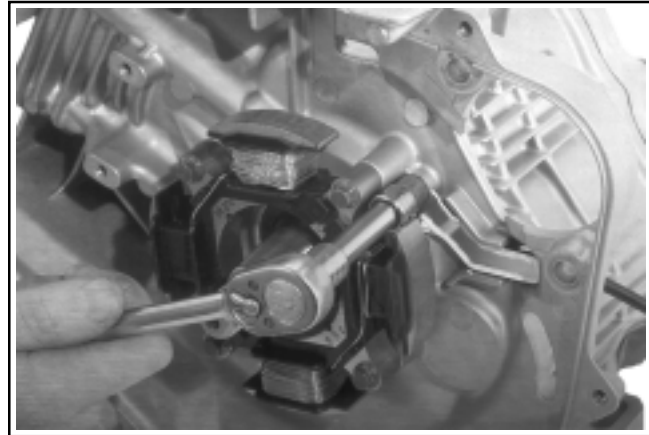

Figure 11-56. Installing Shield.
3. Install the protective wire shield over the channel and secure in place with the M6x1.0 screw. **Torque screw to 10 N-m (88.5 in. lb.).** See Figure 11-56.